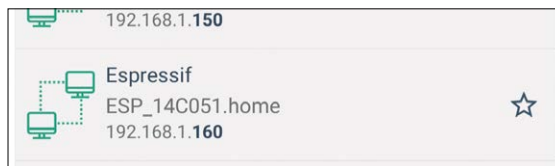

Figure 10.10: Click SEND to send the command.
- Now, click the **SEND button** (Figure 10.10) to send the command to the Raspberry Pi Pico. You should see the message **Packet Sent** displayed at the top of your Android screen temporarily.